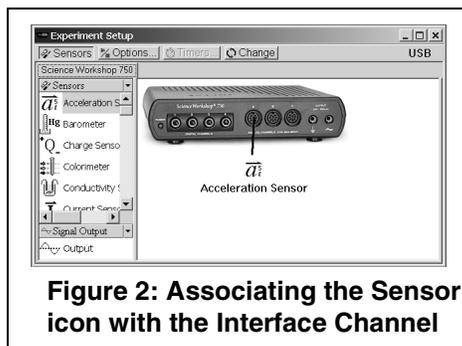

Figure 2: Associating the Sensor icon with the Interface Channel
3. In the Sensors list, double-click the sensor to associate the sensor with the interface channel (See Figure 2) in the setup window.